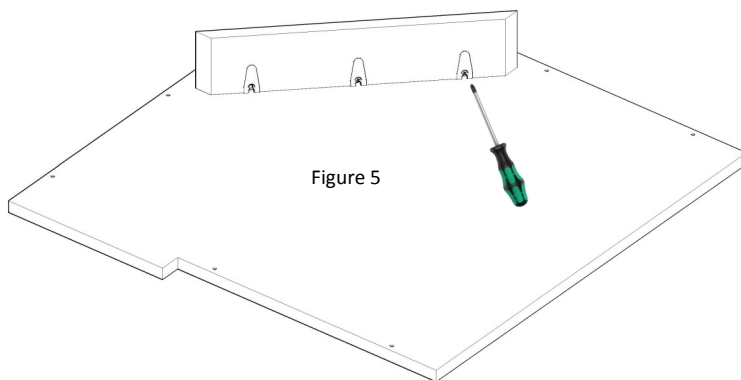

Figure 5
24a. Extend Slide and release Plastic lever to separate slide into two parts as shown in figure 5.
25e. Fold flaps down to secure Inserta Plate to Partition as shown in figure 5. Repeat for other Inserta Plate.
28b. Referring to your Design install all shelves using (6) EQ Clips per shelf as shown in figure 5
31d. Follow step 7 for installing Partition and then adjust Partition foot by turning round plastic at base of the foot to level Partition as shown in figure 5.
32d. Using Grooves on Toe-Kick snap into place over Baseboard Clip adjusting to be flush with end of Partition as shown in figure 5.
34c. Attach the Corner Toe-Kick to Dowels with Outriggers facing in as shown in figure 5. Turn screw in Outrigger to secure.